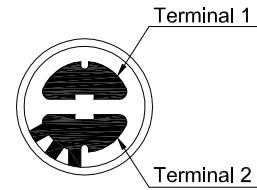

Figure 4. HMO1001A-60 Mechanical Layout
4.3.1. Layout and Dimension : See Section 6, Figure 4